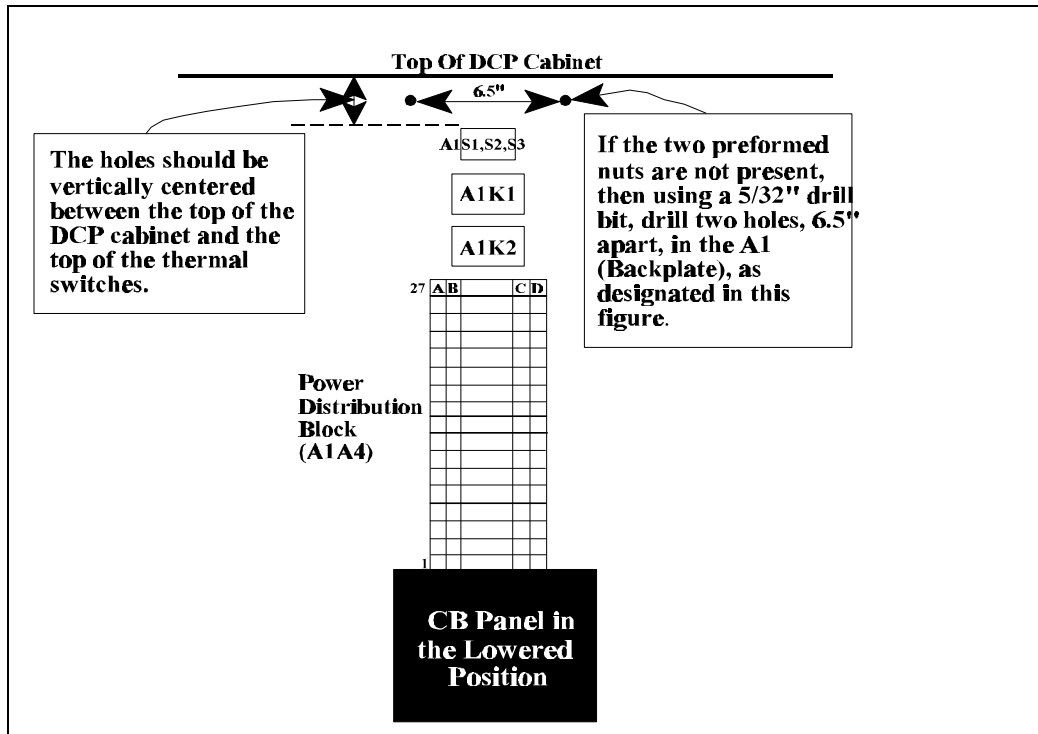

Figure 3 DCP SSTDR, DOM, and UPSBC Mounting Location within DCP Cabinet
5. Above the thermal switches (2A1S1,S2,S3), there *may be* two nuts in the A1 backplate. If so, proceed to step 7, and if not, proceed with the next step. (Refer to figure 3).
6. Using a 5/32-inch (0.15625 inch) drill bit and the Din Rail as a template, drill two holes in the A1 backplate, 6.5 inches apart as designated in figure 3, to install the 2A1A9 assembly.